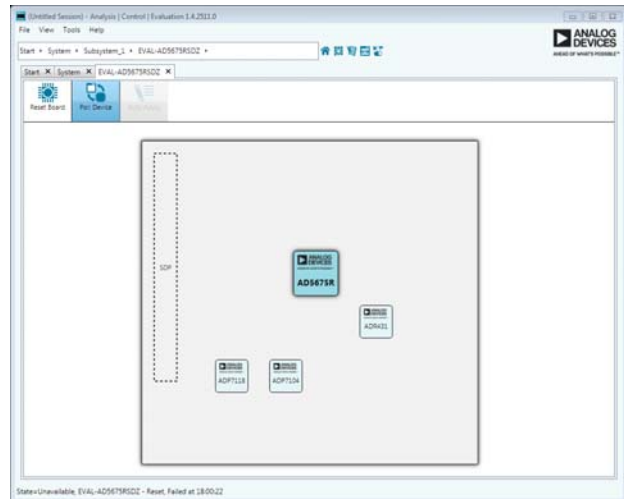

Figure 2. Board View of the EVAL-AD5675RSDZ
4. Double-click on the board plug-in to open the board view seen in Figure 2.